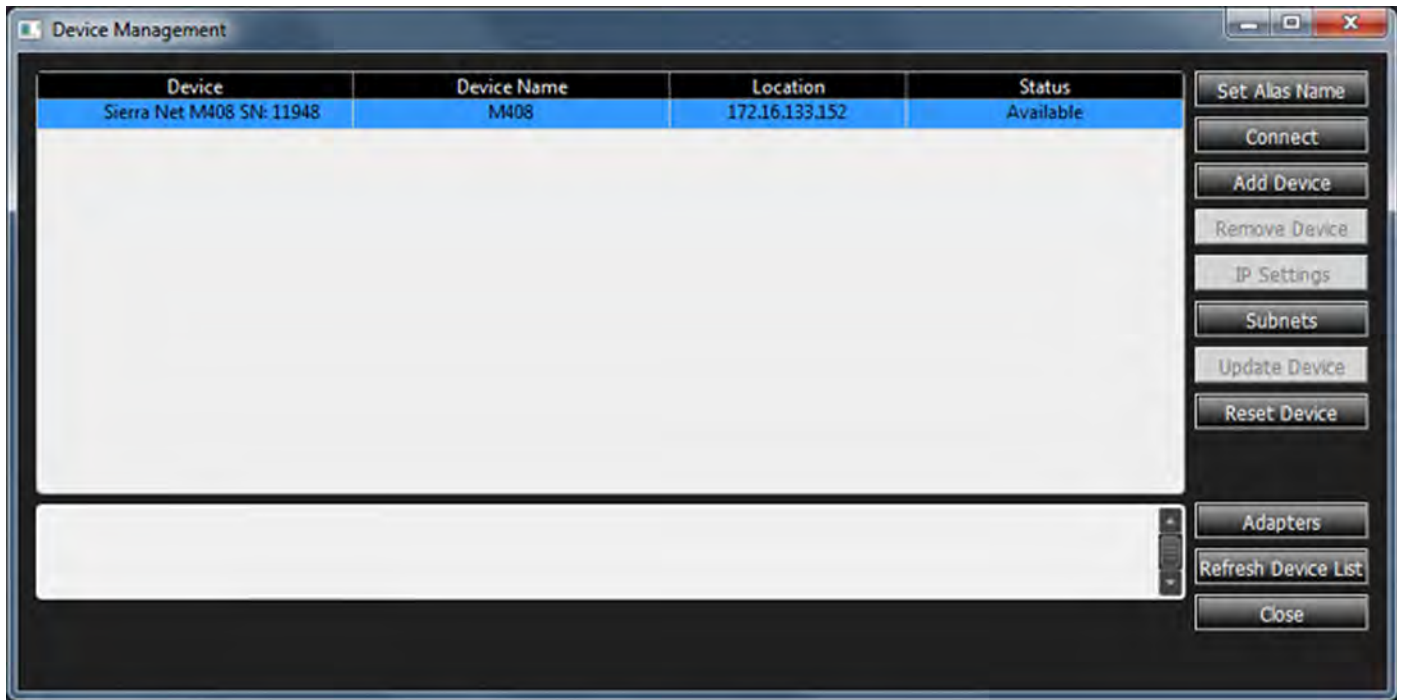

Figure 2.84: Analyzer Updated and Ready to be Connected
4. After power cycling, return to the Device Management dialog window. The Analyzer should be "Available". See Figure 2.84.